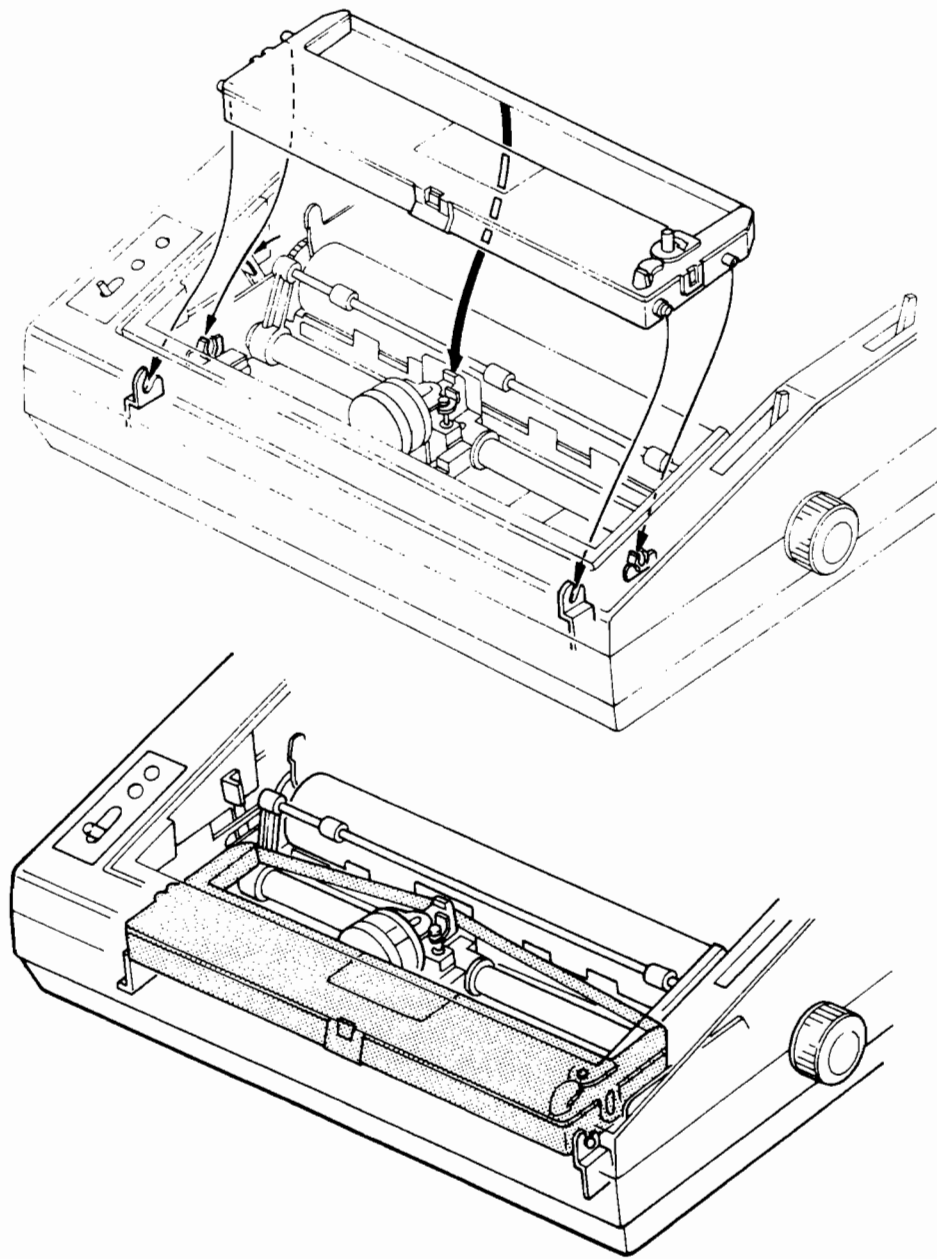

Figure 10 Ribbon Cassette Installation
7. Move the Carriage back and forth manually to check that the ribbon advances properly. If the ribbon has not been properly fitted between the paper and Print Head (i.e., into the Print Head Ribbon Guide Bezel), the Ribbon feed will not operate smoothly (see Figure 10).